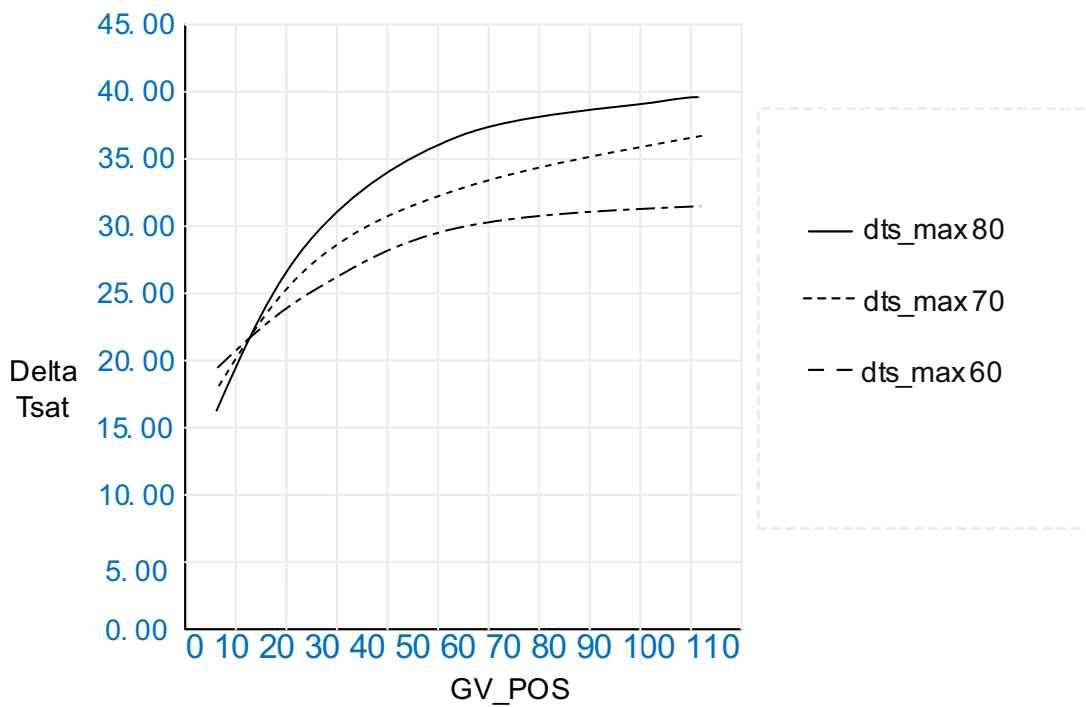

Fig.38 Effect of SURGE DELTA TSMAX on Surge Prevention
- If chiller surges only at full load region, Delta T_{max} should be decreased by **0.28°C** for each step until there is no abnormal surge occurs. **See Fig.38** for the effect of delta T_{max} on surge prevention line.
- If the problem only occurs at full load region, Delta T_{max} should be increased by **0.28°C** for each step until chiller enters real surge. **See Fig.38** for the effect of delta T_{max} on surge prevention line.